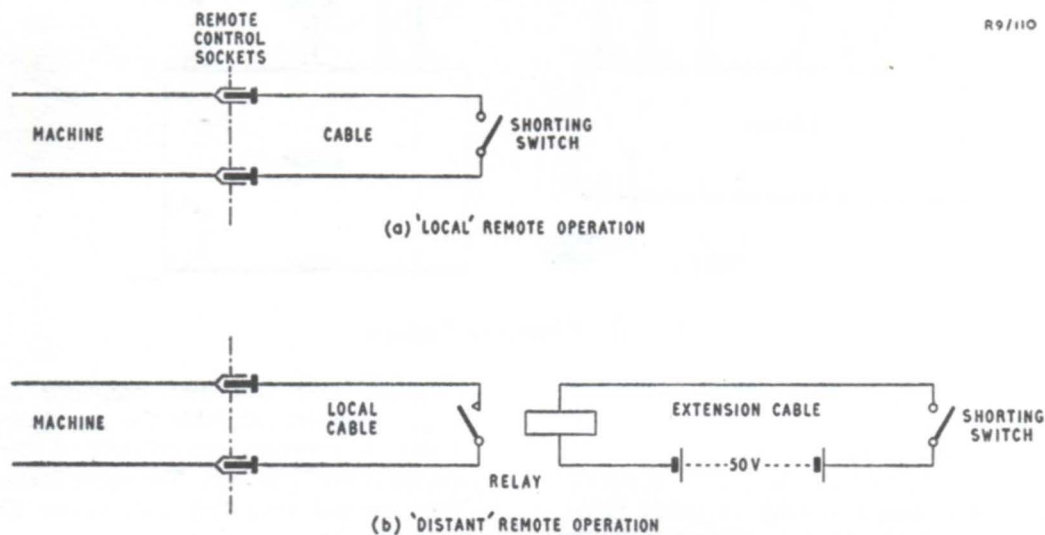

Fig. 9.2. Remote Operating Circuits
1. Connect a twin-conductor cable to the remote-control pin-sockets on the machine connector panel, with a shorting switch at the further end of the cable. (Fig. 9.2.a.)
5. If a very long cable-run is necessary, use a relay at the local end, and insert a battery in series with the shorting switch at the remote end. (Fig. 9.2.b.)